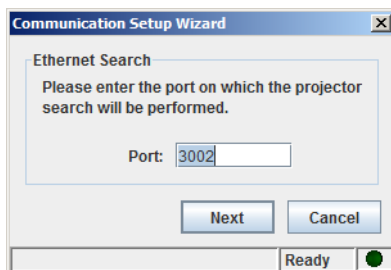

Figure 4-14 Communication Setup Wizard Dialog Box
1. On the Channel Settings Tab, click  to search for all available projectors. The Communication Setup Wizard dialog box (Figure 4-14) appears, prompting users to specify which how the projectors are connected.